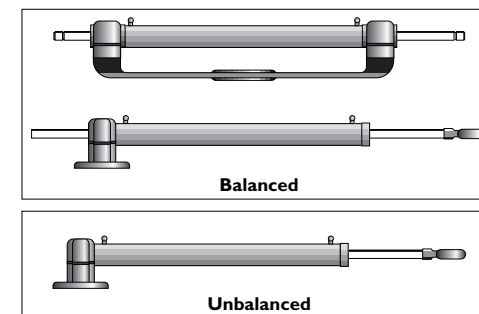

Fig 4.1 - Hydraulic ram types
- If the volume of the ram cylinder is not known then an approximate calculation can be made for a balanced cylinder (these have the rod emerging from both ends of the cylinder - unbalanced rams have the rod emerging from one end only - Fig 4.1).